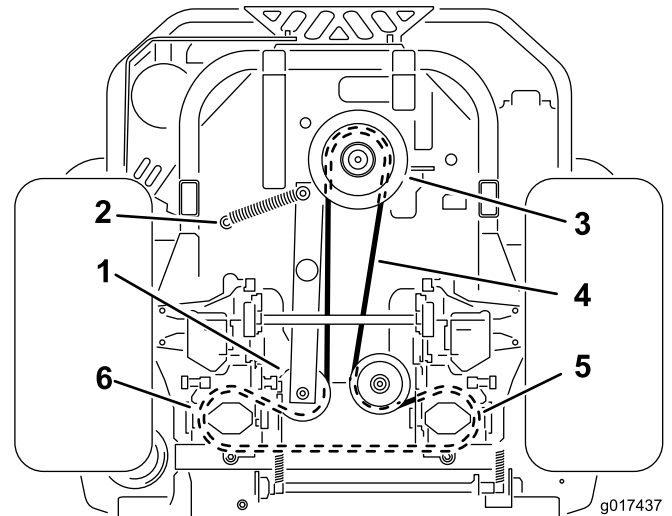

**Figure 58**
5. Remove the clutch stop shown in Figure 58.
9. Install the clutch stop shown in Figure 58.